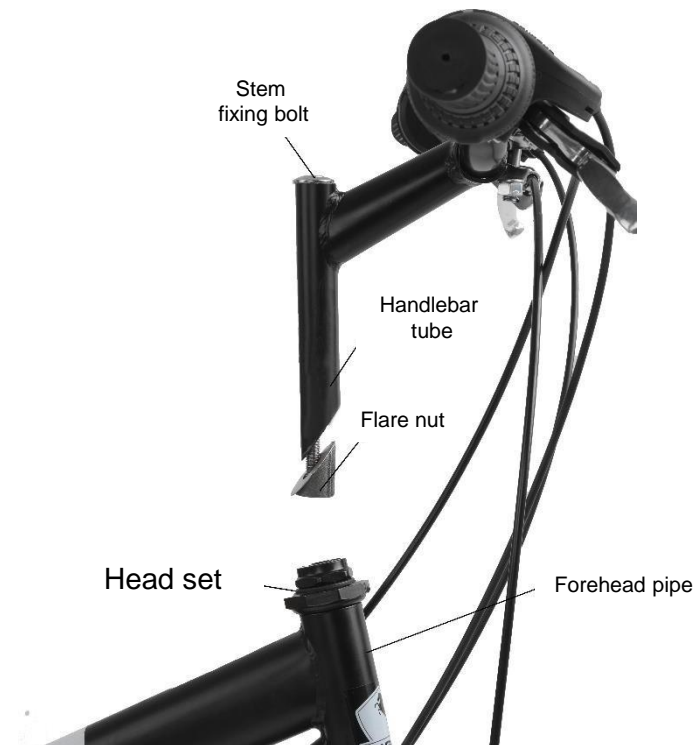

Figure 3.3
2. Remove the bicycle from its protective packaging. See Figure 3.3.